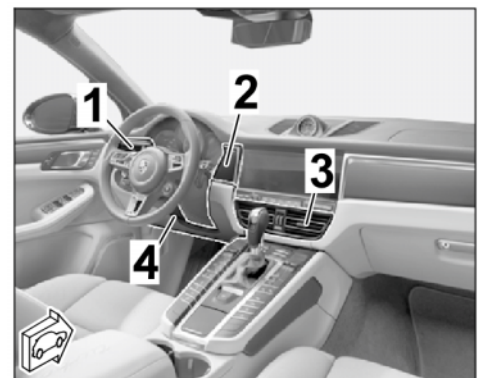

Figure 5 (LHD vehicle)
1.5.1 Removing trim panel under dashboard (left side, ⇒ *Figure 5 (LHD vehicle) -4-*):